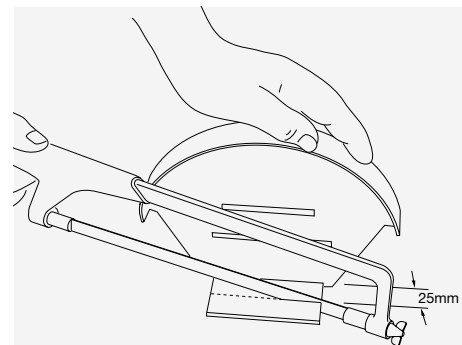

Fig. 17 – Trimming the ridge cap
- 2 When using a ridge end cap with either the Marley dry ridge or RidgeFast systems, the bottom flange of the cap will need to be reduced to 25mm overall depth (Fig. 17).